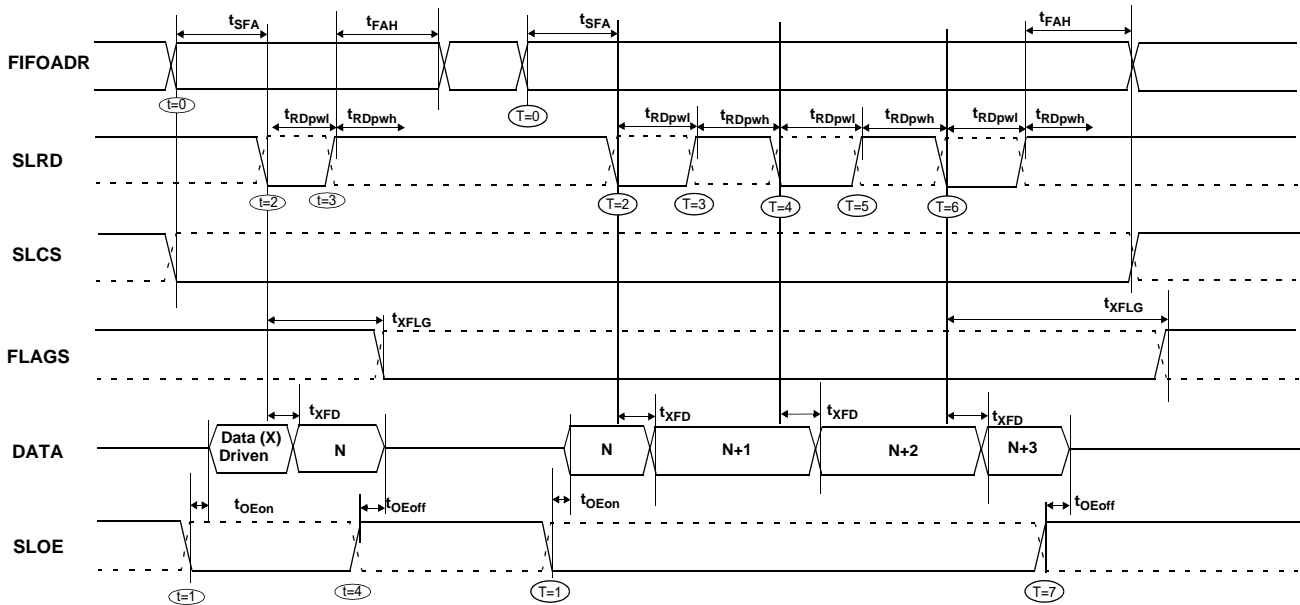

Figure 10-16. Slave FIFO Asynchronous Read Sequence and Timing Diagram^[13]
Figure 10-16 diagrams the timing relationship of the SLAVE FIFO signals during an asynchronous FIFO read. It shows a single read followed by a burst read.
- The data that will be driven, after asserting SLRD, is the updated data from the FIFO. This data is valid after a propagation delay of t_{XFD} from the activating edge of SLRD. In Figure 10-16, data N is the first valid data read from the FIFO. For data to appear on the data bus during the read cycle (i.e., SLRD is asserted), SLOE MUST be in an asserted state. SLRD and SLOE can also be tied together.